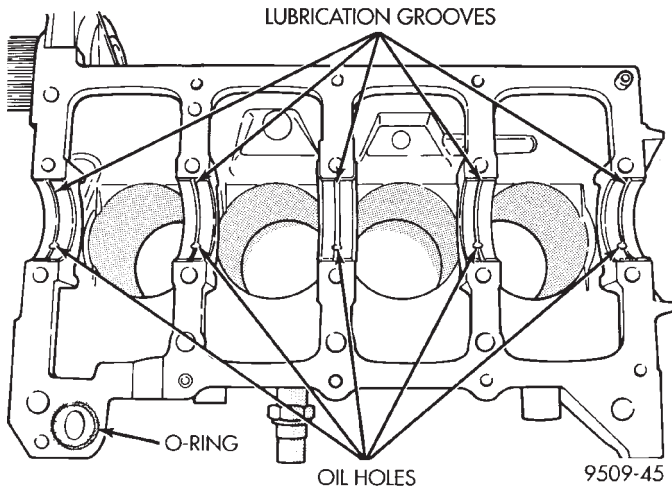

Fig. 104 Installing Main Bearing Upper Shell
- (1) Install the main bearing shells with the lubrication groove in the cylinder block. Install O-ring into recess in the block (Fig. 104).
- (2) Make certain oil holes in block line up with oil hole in bearings and bearing tabs seat in the block tab slots.